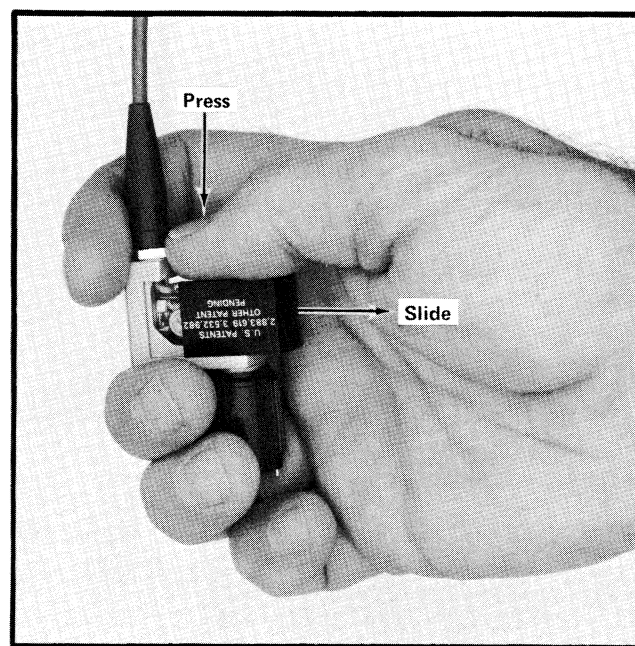

Fig. 6. Removal of compensation box cover.
1. Remove the snap-fit cover on the compensation box. See Fig. 6 for instructions.
1) Remove the compensation box cover. (See Fig. 6 for directions).